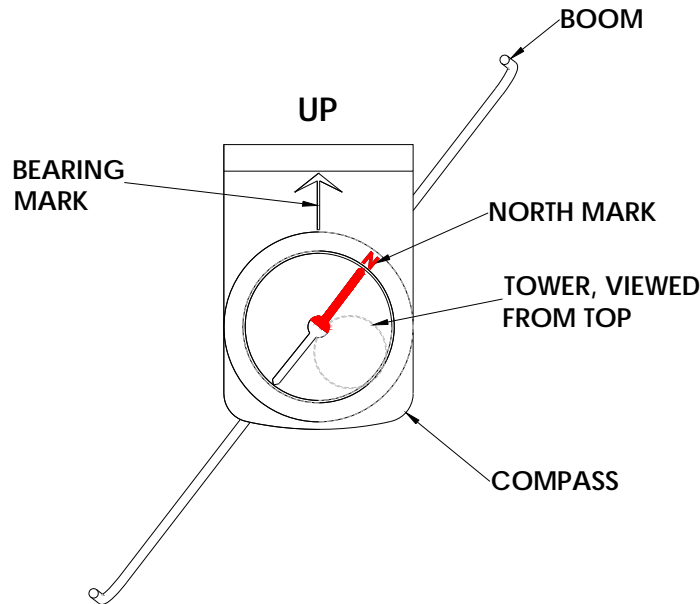

Figure 3
6. Sight through the compass so the center of the compass is over the point where the boom contacts the tower, with the bearing mark still straight up. See Figure 3.